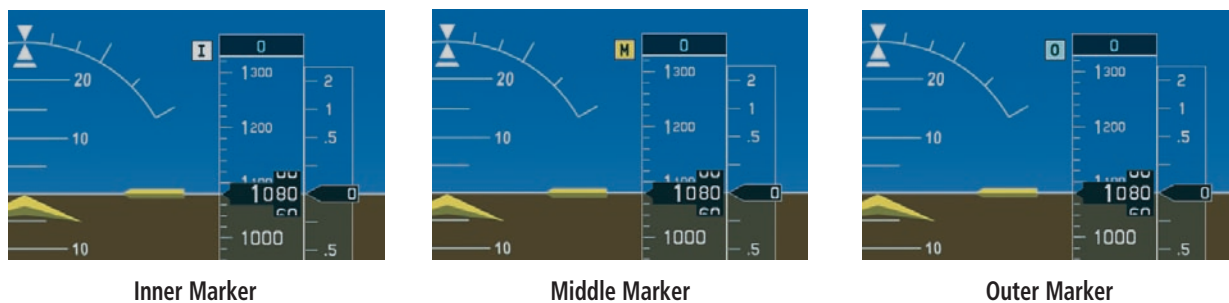

Figure 4-4 Marker Beacon Signal Indicator Lights on the PFD
The receiver detects the three (3) marker tones, **outer**, **middle** and **inner**, and illuminates the appropriate marker beacon indicators. The marker indicators are located to the left of the altimeter on the PFD (Figure 4-4). The outer marker frequency is 400 Hz with a blue indicator, the middle marker frequency is 1,300 Hz with an amber indicator and the inner marker frequency is 3,000 Hz with a white indicator. Refer to Table 4-1 for a summary of the marker beacon signal characteristics.